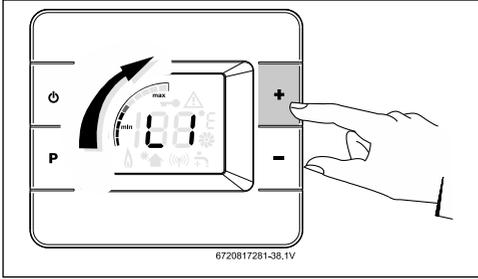

Fig. 44 Gas adjust - L1 parameter
- ▶ Press the button **P** to enter L1 and verify if power bar level is at middle point, see fig. 44.